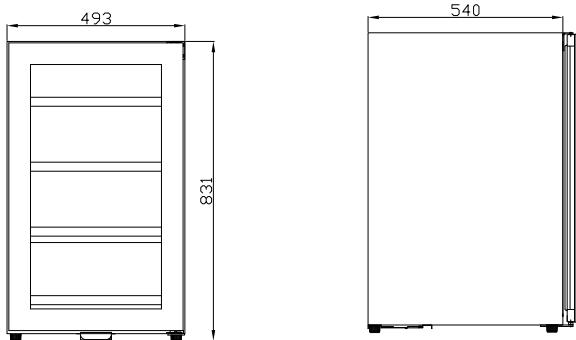

fig. 3
**WFG32** is only for free-standing, and sufficient free air around the appliance must be ensured. (fig. 3)